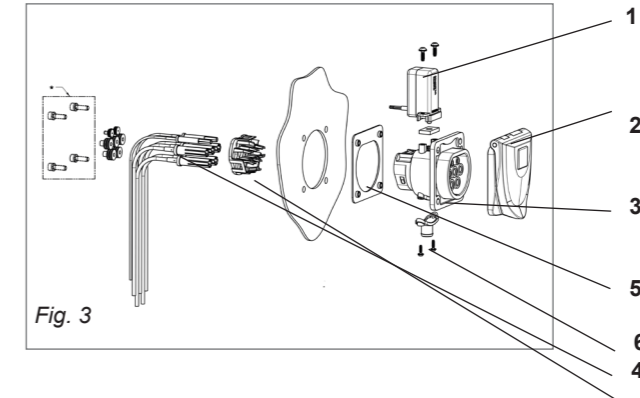

Fig. 3
Wall thickness with locking actuator: maximum of 5.5 mm (refer to Fig. 3)
Step 1:	Remove the locking actuator (1) and the water drainage (6).
Step 2:	Make sure that the flange gasket (5) rests against the rear of the charging socket (3). Mount the flange gasket (5) on the rear of the charging socket (3) (refer to Fig. 3).
Step 3:	Carefully guide the charging socket (3) through the wall cut-out from the front. Make sure that the flange gasket (5) is seated properly on the charging socket.
Step 4:	Attach the charging socket (3) and the hinged cover (2) from the inside to the mounting wall using the pan head screws and washers. Note that the length of the screws depends on the thickness of the mounting wall: <ul style="list-style-type: none"> M5 pan head screws Washer, according to DIN 934 Screw length: from 10 mm to max. 13 mm, plus wall thickness Max. torque: 4 Nm
Step 5:	Mount the locking actuator (1) and the water drainage (6). Locking actuator (1) -> max. torque 1.7 Nm Water drainage (6) -> max. torque 1.2 Nm.